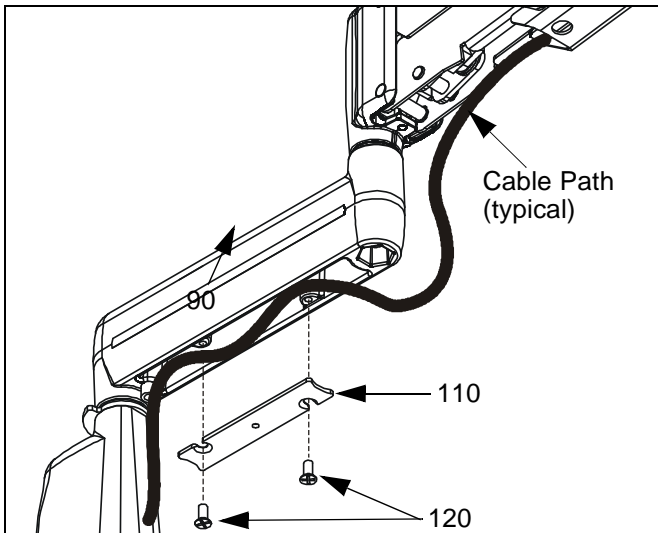

Figure 8: Static Arm - Cable Path
- Carefully insert cables in cavity located in lower portion of mount arm (see figure 8).
- Using Phillips screwdriver, install cover (110) with two screws (120).